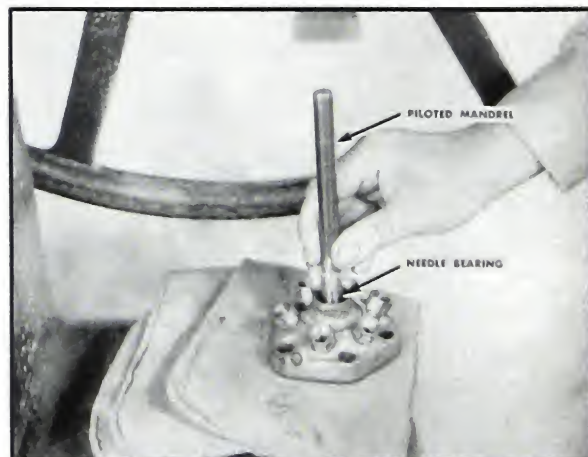

Fig. 5-203. Replacing needle bearing
1. Press in the needle bearing until it is flush with the bottom of the oil seal counterbore. Turn cover over and make sure the hole at the base of the needle bearing is not covered. Fig. 5-203.